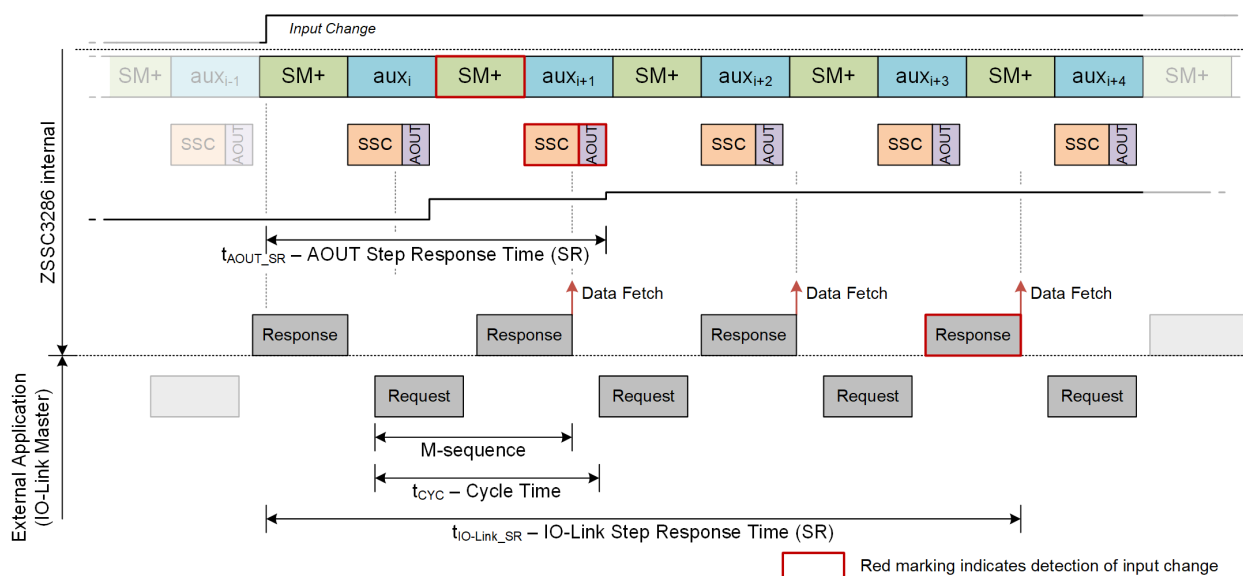

Figure 32. SM+/SM-Step Response
For SM+/SM- configuration the worst-case step response is shown in Figure 32 and consists of:
- SM+/SM- configuration: refer to Figure 32 and description for step response in section 5.8.3